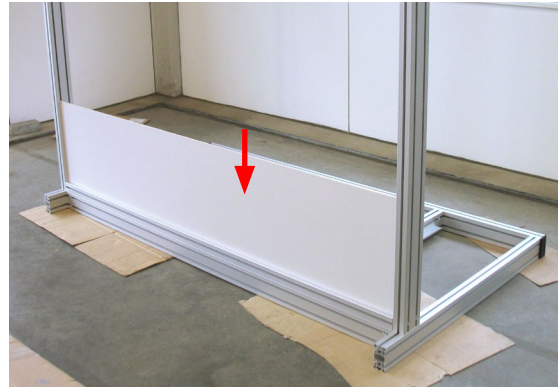

fig. 3.1-18
Step ⑫ The cover **A2b** is also inserted into the front guide groove (starting from the operator) between the side stands and down to the long frame part **A2c** (*fig. 3.1-18*). Ensure that the cover slots into the groove correctly.